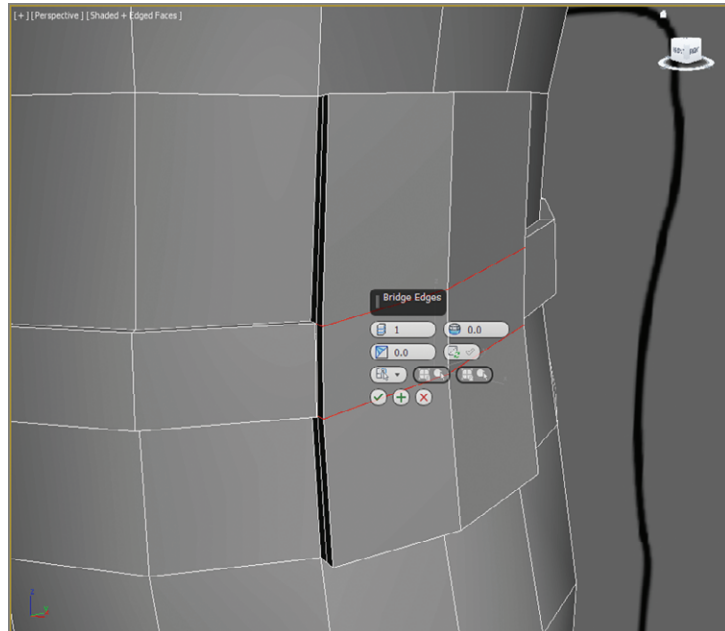

FIGURE 8.9 The Bridge Edges caddy settings
7. Select Graphite Modeling Tools tab > Edges > Bridge > Bridge Settings to open the Bridge Edges caddy, as shown in Figure 8.9. Accept the default values, and click OK to exit the dialog box.